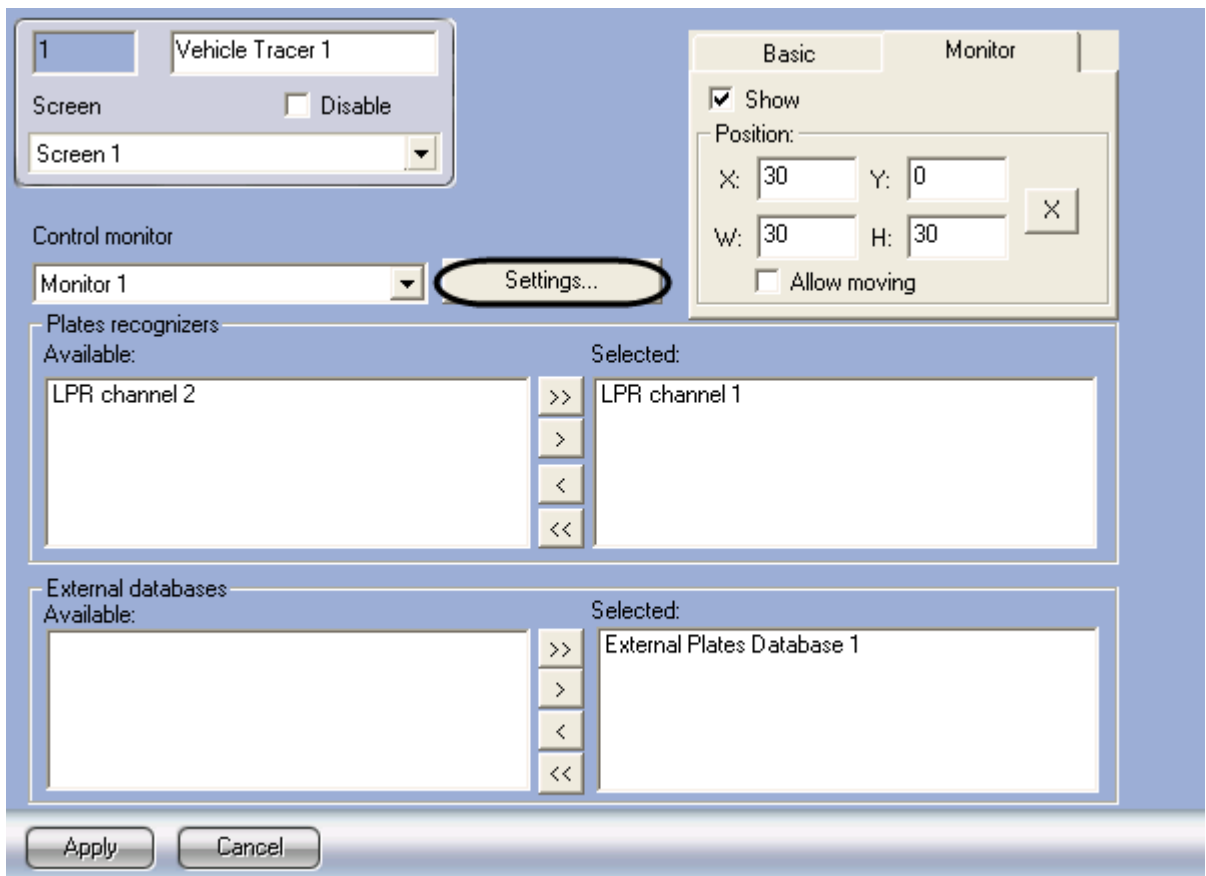
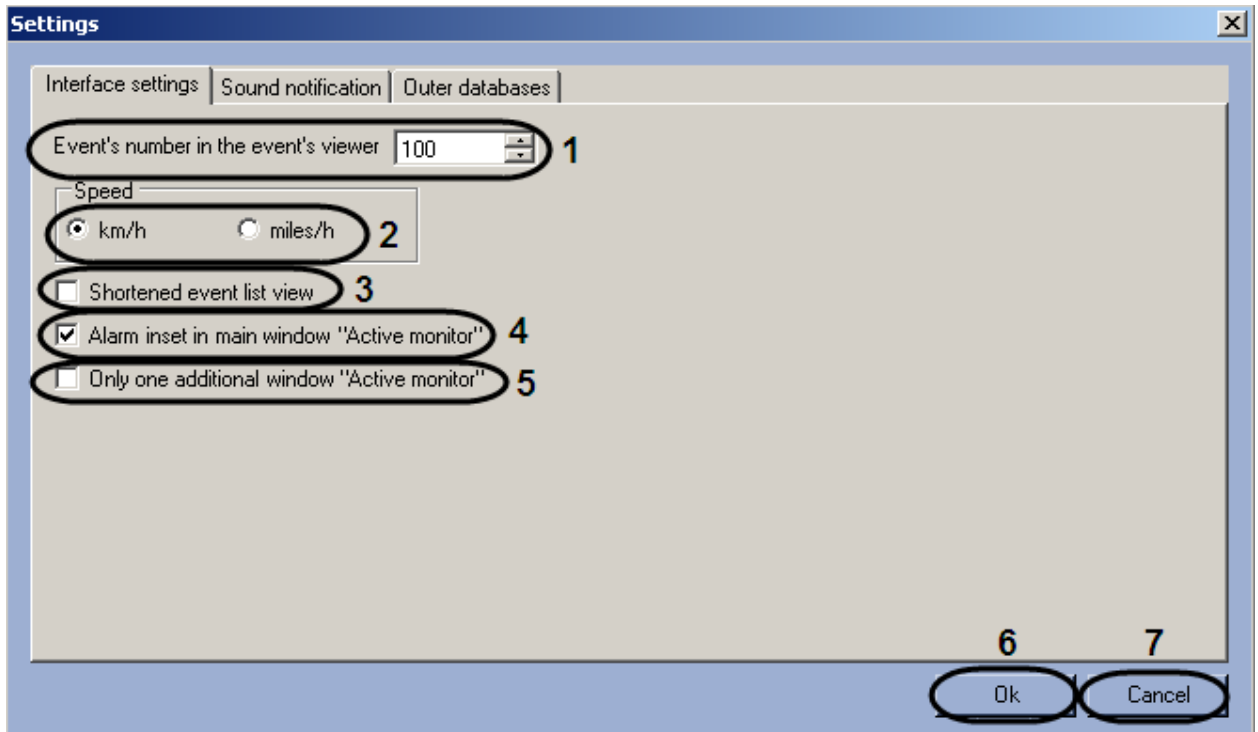

Fig. 7.8-7 Access to the interface settings of the Vehicle tracer
Fig. 7.8-8 The interface settings of the window Vehicle tracer
1. Go to the Vehicle tracer settings panel (Fig. 7.8-7).
2. Click Settings button (Fig. 7.8-7). The Settings dialog window will open in result (Fig. 7.8-8).
3. In the field Event's number in the protocol (Fig. 7.8-8, 1) enter the maximum number of events that may be displayed in every protocol of the Active monitor component. Updating the protocol, containing the maximum number of events, is performed in a loop: while adding a new event the earlier is deleted.
4. Set the Speed switch (Fig. 7.8-8, 2) to the position, corresponding to the Vehicle's speed unit of measurement? That is to be displayed in the Vehicle tracer window (km/h or m/h).
In case if in the ON-line monitor's events protocol there should be displayed only identified number, name of plate's recognizer, and data and time of receiving the data for every event, set the checkbox Shortened event list view (Fig. 7.8-8, 3).
6. There is possibility to create additional Active monitor components (see the document «the Auto-Intellect program complex: Operator guide»). In case if the alarms protocol is displayed only in the main interface component On-line monitor, not in the additional ones, set the checkbox Alarm inset in main window Active monitor (Fig. 7.8-8, 4).
7. On default the number of active monitor additional displayed components is not restricted. In case if only one, last created active monitor component is required to be displayed, set the checkbox Only one additional window active monitor (Fig. 7.8-8, 5).
8. Click OK to save the changes and close the Settings dialog window » (Fig. 7.8-8, 6).